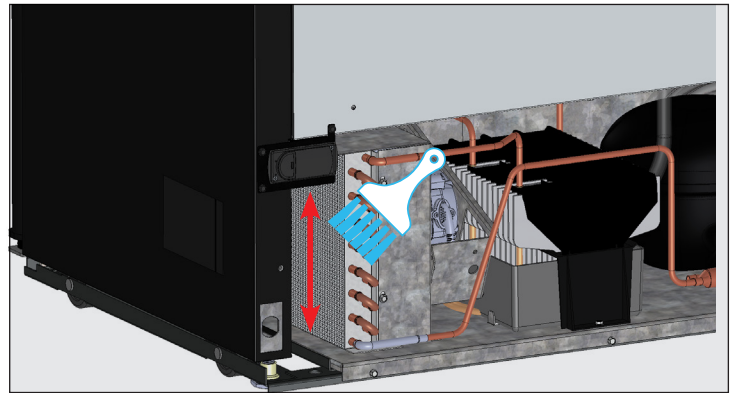

Fig. 2. Never brush across the coil fins.
3. With a stiff bristle brush, carefully clean accumulated dirt from the front condenser coil fins. See fig. 2.